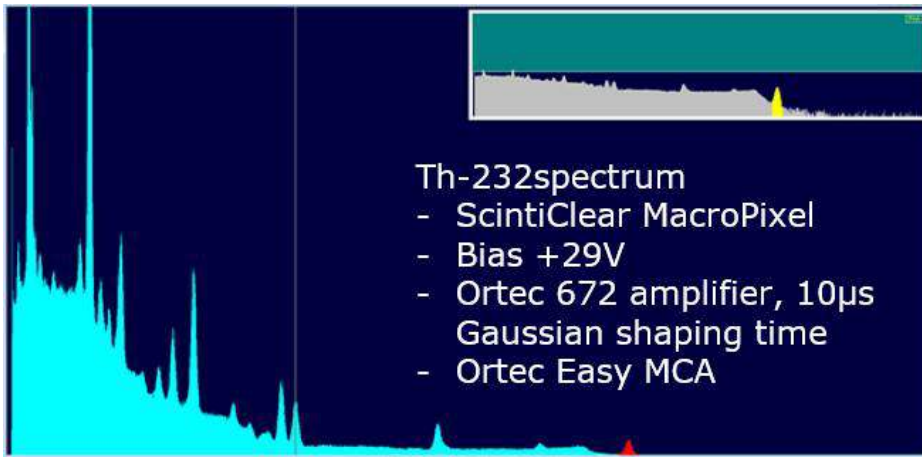

Figure 3
4) Multi-channel analyzer (MCA) with a software. In our example we used Ortec’s Easy MCA with Maestro (Figure 3) but any other MCA can be used.